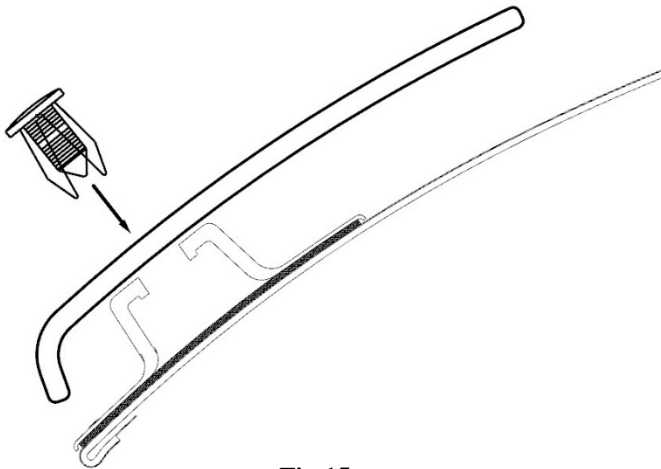

Fig 15
- 13.** Align the (4) holes in the hood deflector with the holes in the pedestals. Insert a push type retainer through the hole in the hood deflector and into the pedestals. (Fig 15)